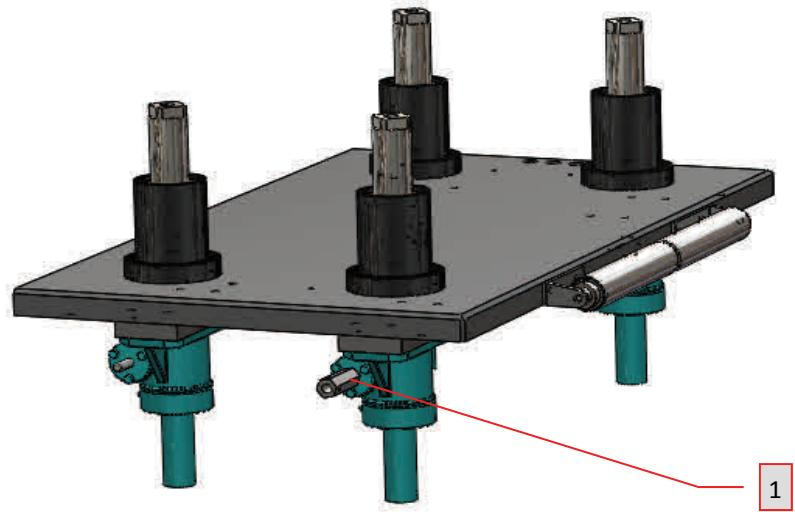

FIGURE 10—Detail of Jack Screw Mechanism
5. **Jack Screw Hex Fitting** – This hex fitting raises and lowers the four jack screws and is attached to a chain and sprocket mechanism inside the cabinet. See Figures 10 and 11 for more detail.